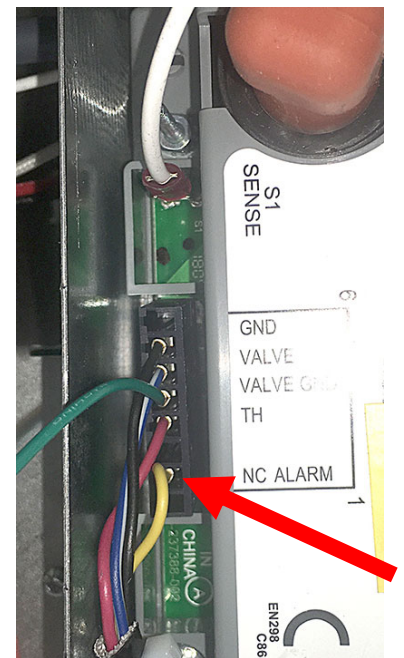

Figure 21
31. If "HEATING FAILURE" errors are displayed on Full Vat controllers after updating the modules, the corrective action is to remove the **YELLOW** ignition alarm wire out of the **LEFT** ignition module connector labeled NC ALARM (see Figure 21). This will allow the fryer to operate without heating failure alarms.